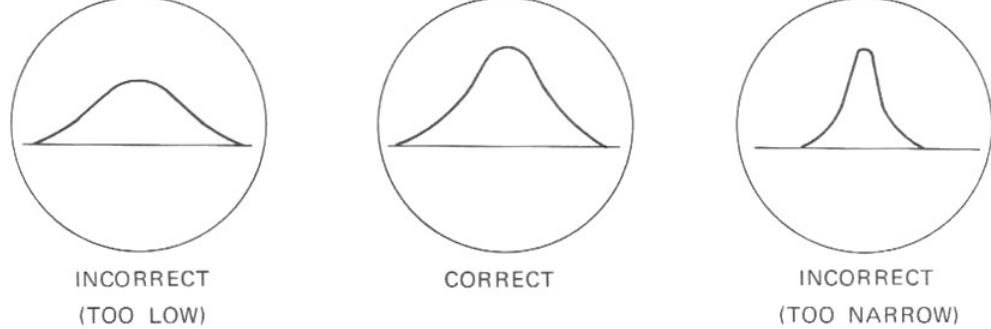

Figure 4.
- 5) Adjust core of T4 for highest, widest and round top display as shown in Figure 4, CORR (Since ceramic filters are used in the IF circuits, ignore 10.7 MHz center marker in the alignment).